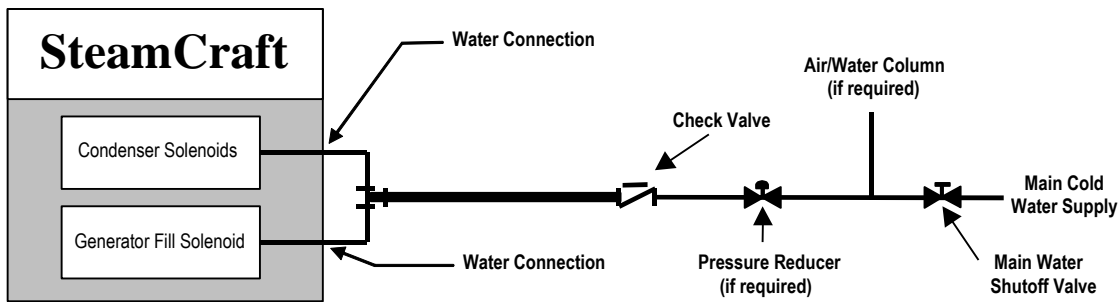

Figure 3-7 Cleveland Range Single Water Supply Arrangement
- c. If the supply water meets the requirements shown in the Warranty, then the Single Water Supply Arrangement shown in Figure 3-7 may be used.